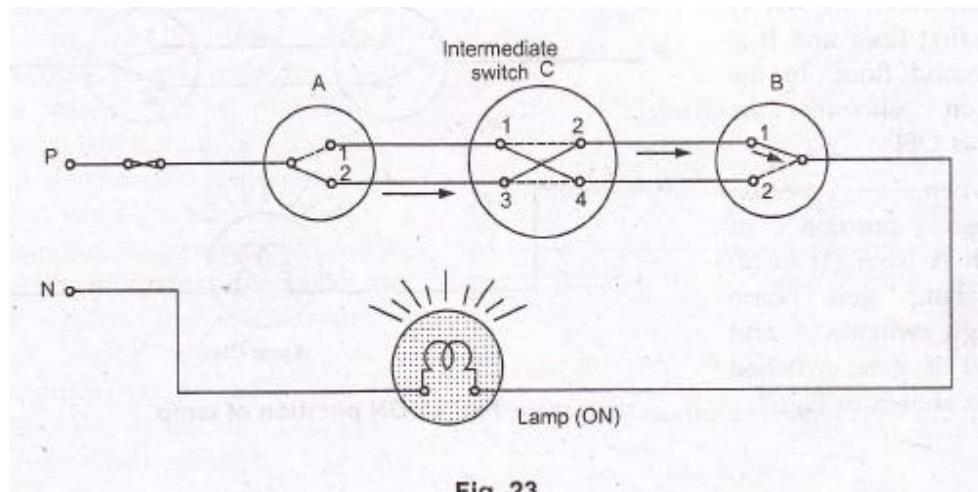

Fig. 23
- 3) Explain **Three way control of lamps:** This is also a type of stair case wiring. It consist of two way switches A and B and one intermediate switch C. The circuit used to have three way control of lamps is shown in the fig. 23.
In the position shown is, fig. 23, the lamp is ON.